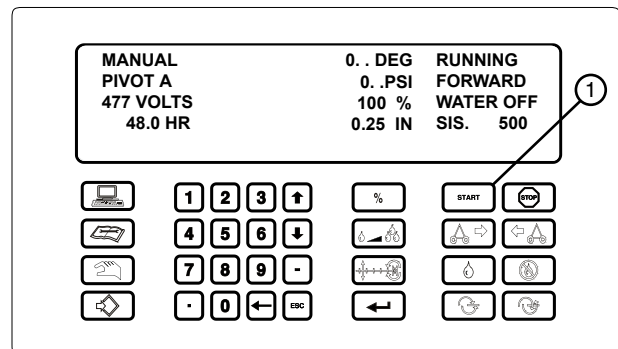

Figure 57-3 1. START key.
- Press  to start the machine in the pivot mode. See figure 57-3.